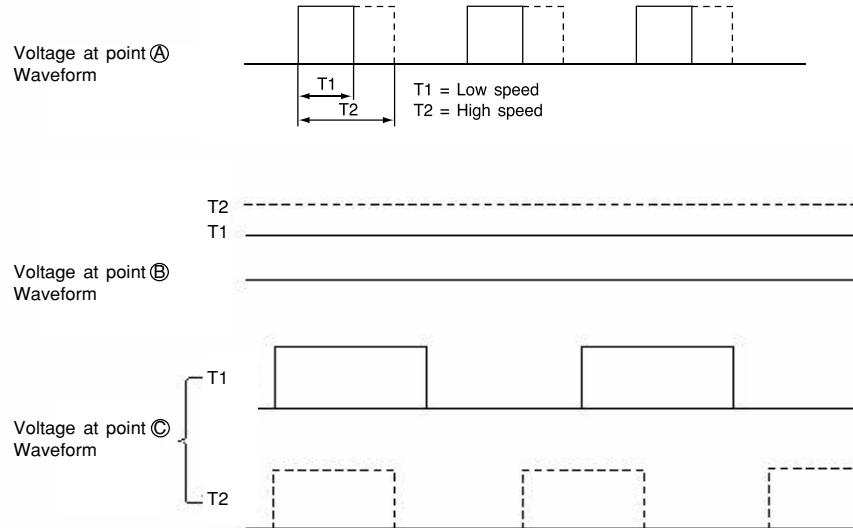

Fig. 7-2
- For the point A, 15.7 kHz PWM pulse will be output from the pin ⑨ on the micro computer as shown in Fig. 7-2. The pulse range will vary with different command speed.